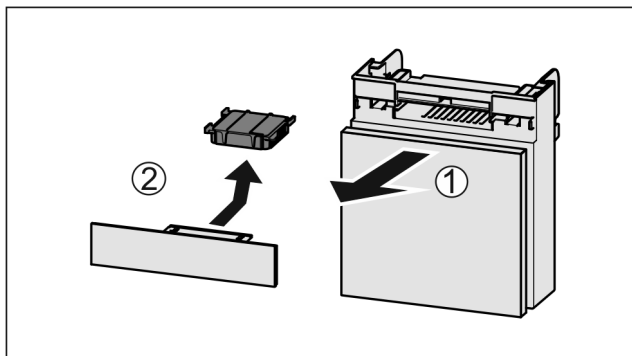

Fig. 136
- Pull out the compartment Fig. 136 (1).
- Remove the carbon filter Fig. 136 (2).